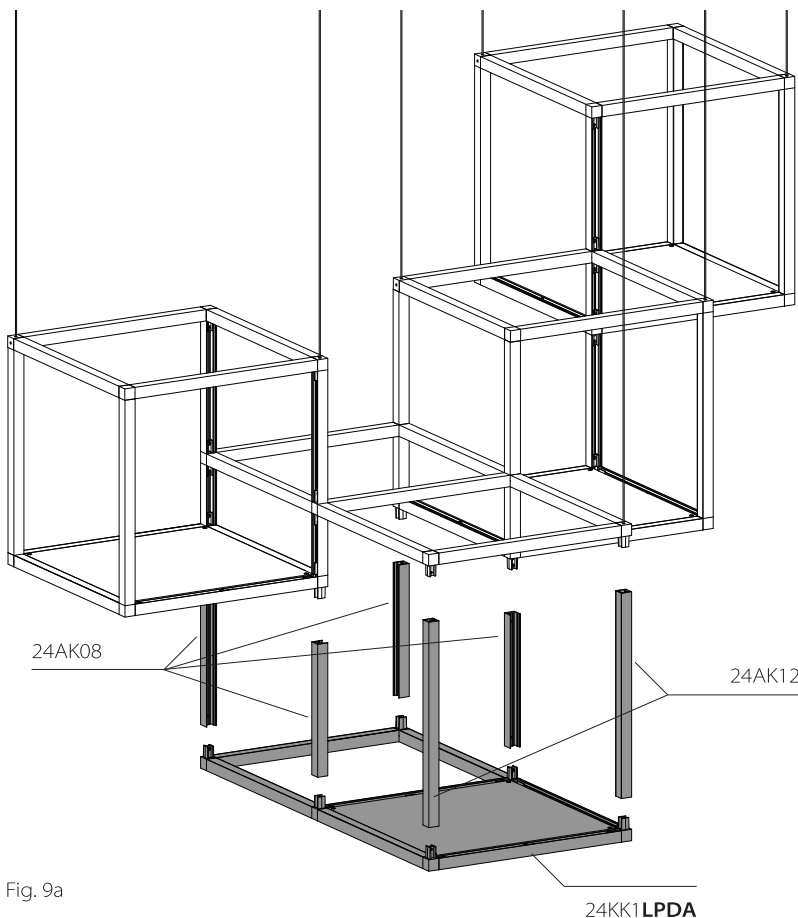

Fig. 9a
- 7a. Install (2x) 24AK12 and (4x) 24AK08 to 24KK1LPDA in the orientation shown in Fig. 9a.
- 7b. Install 24KK1LPDA assembly to the main assembly in the orientation shown in Fig. 9a.